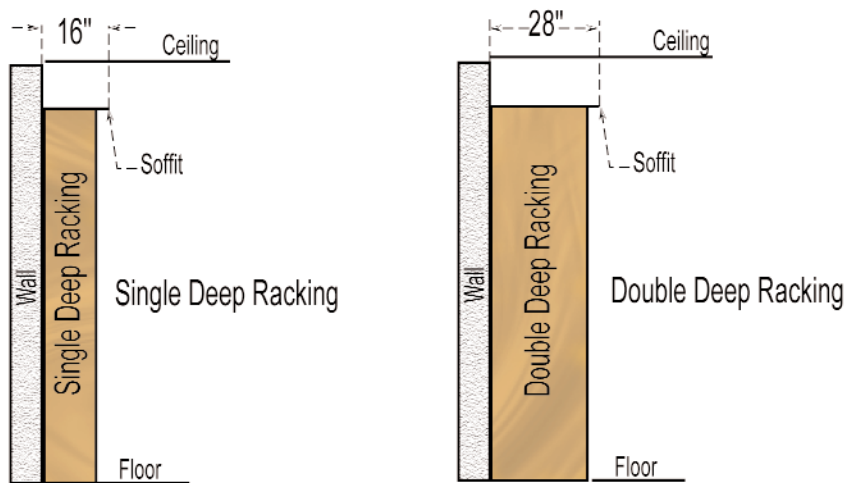

Figure 3
- All finished soffits for single deep racking without lighting must be a minimum of 16". And double deep racking without lighting must be a minimum of 28". (See figure 3 below)
13. Ideally, 1/2" plywood sheeting will be secured to all walls after electrical rough in and insulation to anchor racking. (This step not needed if using nailers between studs. See Figure 3 above).